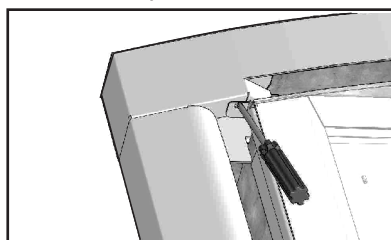
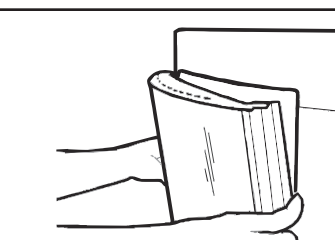

FIG 10
FIG 11
1. To remove the inner fascia assembly undo two screws in the upper flange as indicated in **FIG 10**. Remove the inner fascia assembly by holding the glass surround and firmly pull it towards you. Refer **FIG 11**.